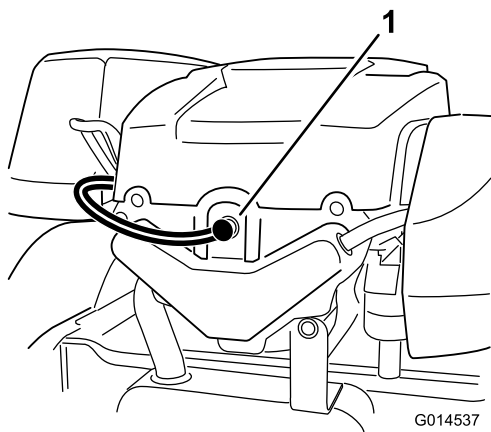

Figure 32
2. Pull the wire off of the spark plug (Figure 32). Clean around the spark plug to prevent dirt from falling into the engine and potentially causing damage.
3. Push the wire onto the spark plug (Figure 32).